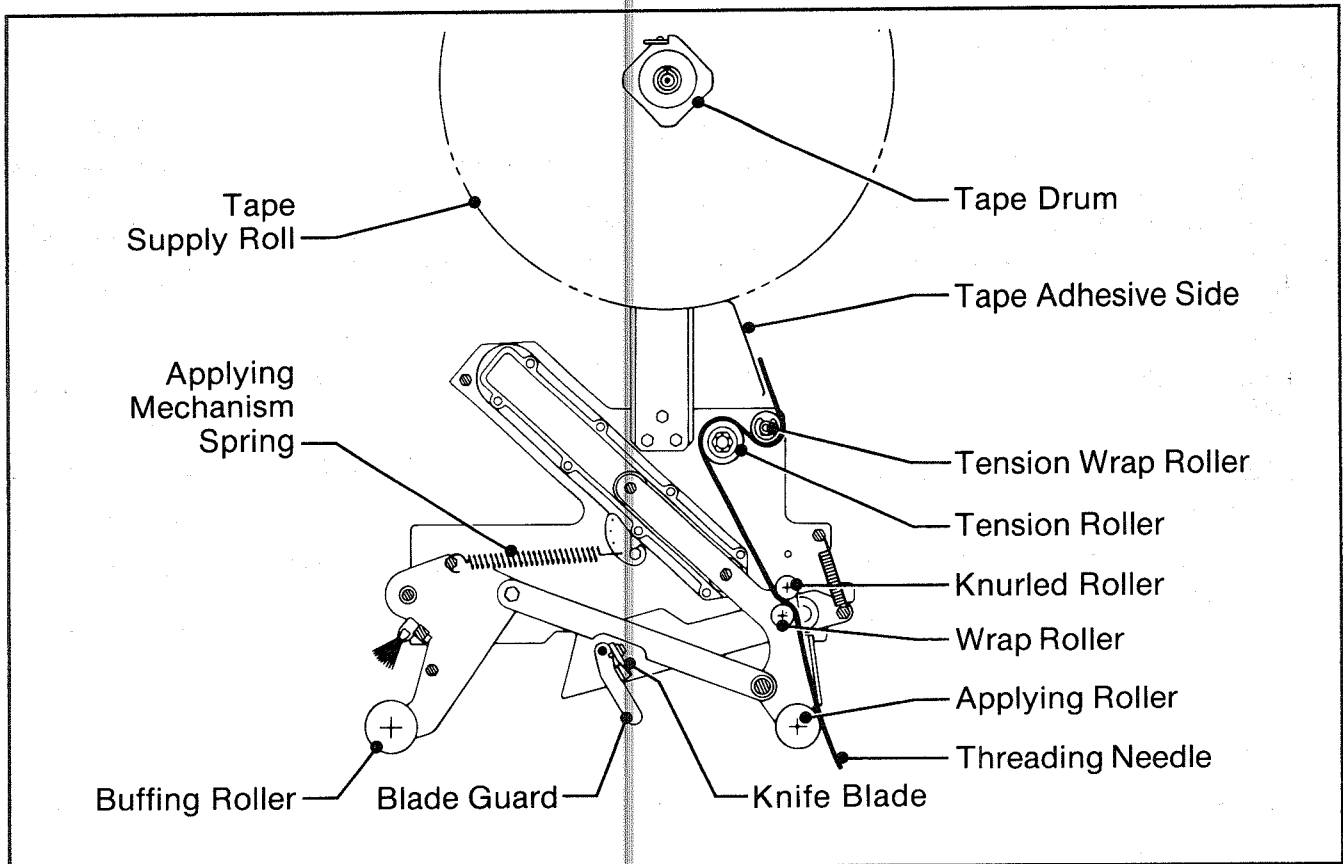

Figure 8 - Tape Threading Diagram - Top Taping Head - Left Side View
1. BOTH THE TOP AND BOTTOM TAPING HEADS UTILIZE EXTREMELY SHARP KNIFE BLADES ON THE ORANGE CUTTER LEVER ASSEMBLY AND WHICH ARE LOCATED UNDER THE BLADE GUARD WHICH HAS THE "CAUTION - SHARP KNIFE" LABEL. BEFORE WORKING WITH THE TAPING HEADS OR ATTEMPTING TO LOAD THE TAPE, REFER TO FIGURES 8 and 8A AND IDENTIFY THE BLADE LOCATION. KEEP HANDS OUT OF THESE AREAS EXCEPT AS NECESSARY TO SERVICE THE TAPING HEADS.
2. With the temporary threading needle already in position, as shown in Figure 8, follow the tape loading procedure from Figure 8C to complete the tape threading.